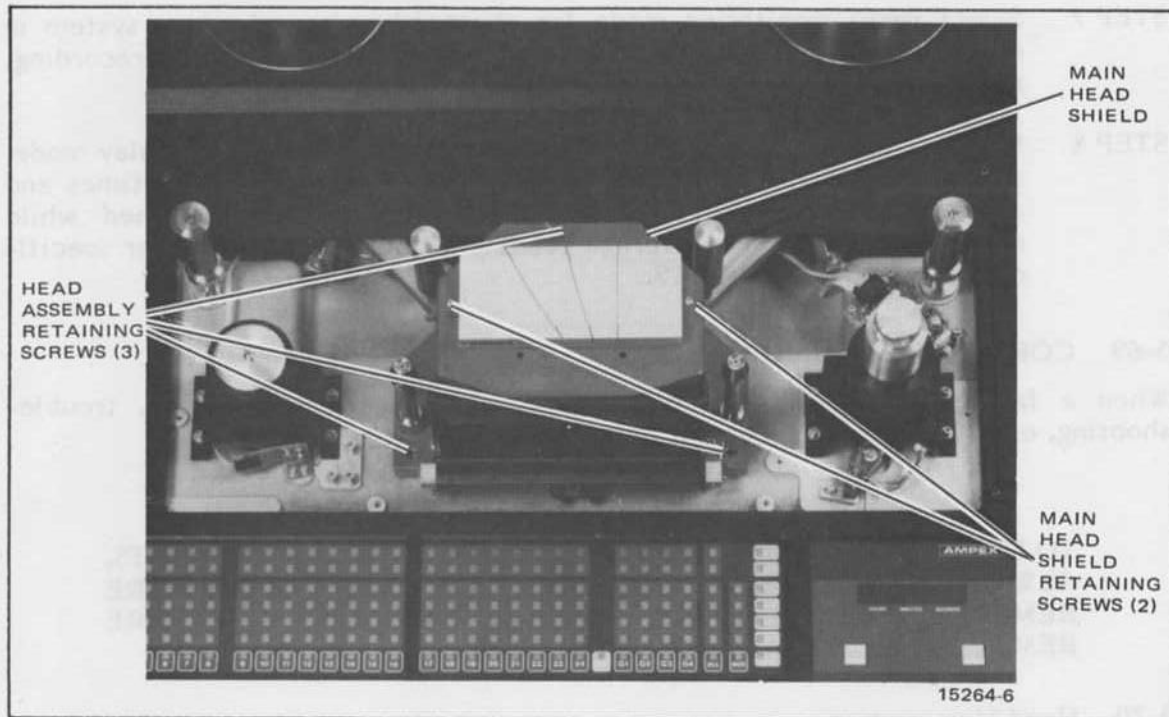

Figure 5-33. Head Assembly Installation
- STEP 3 Remove three head assembly retaining screws (Figure 5-33).
- STEP 2 Fasten head assembly to transport by reinstalling the three head assembly retaining screws (Figure 5-33).
- STEP 3 Remove main head shield from head assembly by removing two screws (Figure 5-33) that secure main head shield to base plate.